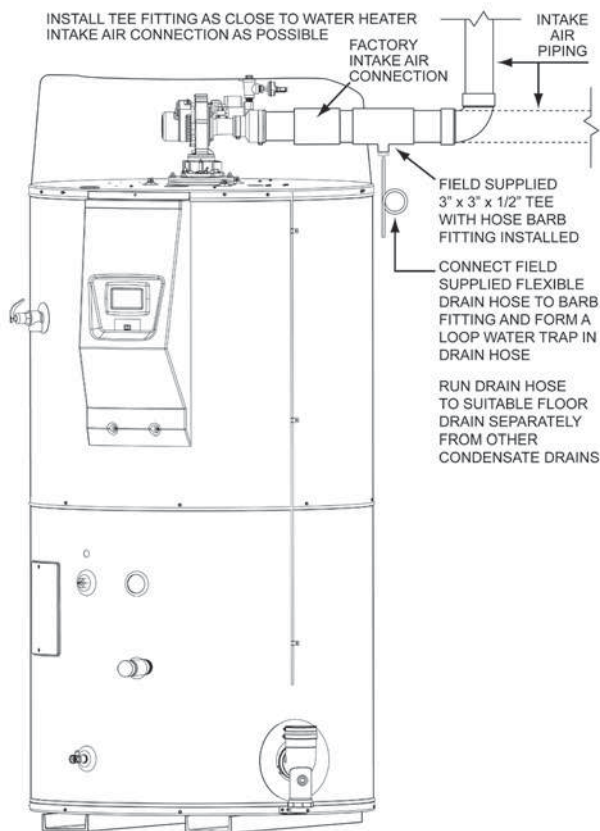

Figure 20. Intake Air Condensate Tee Installation
9. A field supplied condensate Tee fitting and drain hose shall be installed in the intake air piping near the water heater in colder climates with heavy snow accumulations and in areas that regularly experience high humidity. The drain hose should be routed to an adequate floor drain separate from any other condensate drains. See **Figure 20** (page 24).
Installations with any of these conditions are required to provide a moisture drain with a trap that flows to a waste drain. See **Figure 20**. A horizontal section of the air inlet pipe, near the heater should include a 3" x 3" x 1/2" tee and a hose barb fitting to drain the water. The tee should be as close to the heater as is practical. The drain tubing in any installation should have a loop trap and flow to an appropriate waste drain. The air intake drain line must be entirely separate from the exhaust vent outlet condensate line.